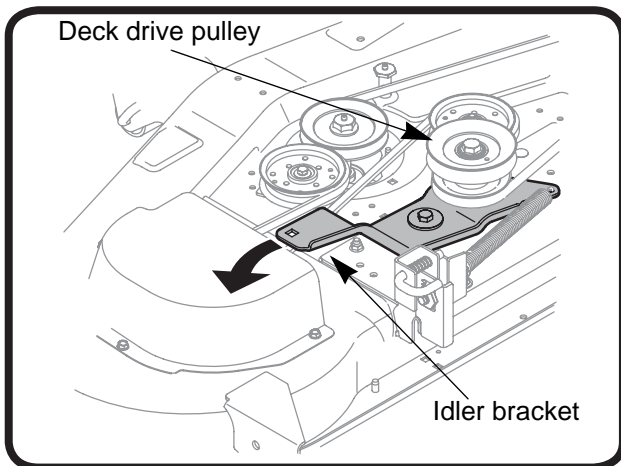

Figure 8.1
4. Insert a 1/2" drive breaker bar into the square hole in the deck idler bracket on the left side of the deck. See Figure 8.1.